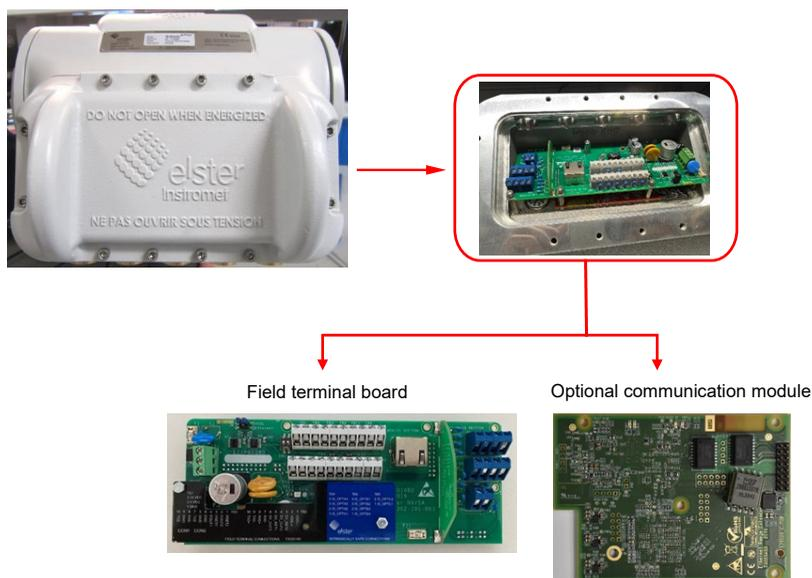

Fig. 1: Rear compartment and PCB boards
The rear compartment contains the following PCB's (⇒ Fig. 1):
3. After the power has been shut down wait at least 10 minutes before opening the rear compartment of the SPU (⇒ Fig. 1).